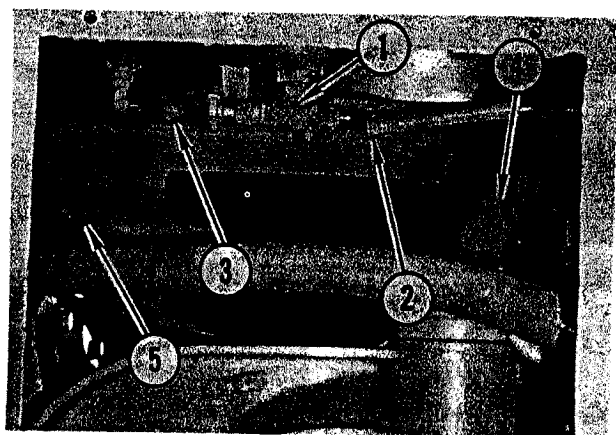

FIGURE 6. FUEL LINES
Refer to Figure 6. Close fuel shut off valve (1). Remove fuel line (2) from valve fitting. Remove fuel return line (3) from fuel tank fitting. Remove converter oil line (4) at converter relief valve fitting. Disconnect drain back hose (5) at converter housing.